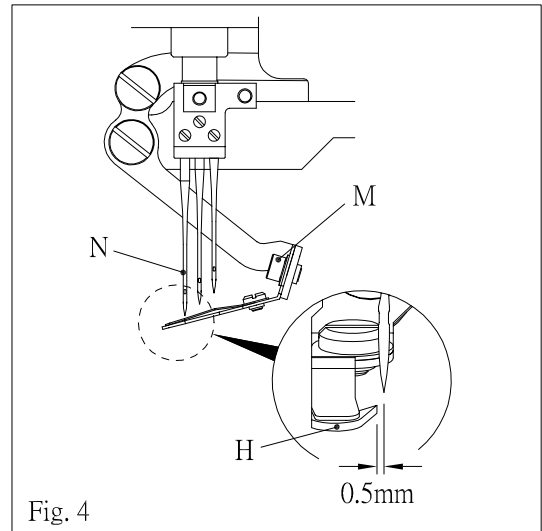

Fig. 4
- (5) 當抓線鉤(H)至下死點，鉤尖行經左針(N)中心時，兩者前後需有0.5mm間距，而間距可由螺絲(M)做調整，完成後需再檢視第三和第四步驟。(圖4)
There should have a tolerance of 0.5mm between hook blade (H) tip and center of leftest needle (N) by the time when hook blade (H) moving thru needles and reaching to its lowest position and the adjustment of such tolerance can be obtained by adjusting screw (M), after such adjustments, will need to double check step (3) and step (4) again. (Please refer to figure 4.)
- (6) 調整回復彈簧(O)，使抓線鉤(H)能順利退至上死點，可依現況以螺絲(P)做調整，移動支架(Q)，朝向長孔左側移動拉回力量較大，朝向右側移動則反之，一般置於最右側即可。(圖5)